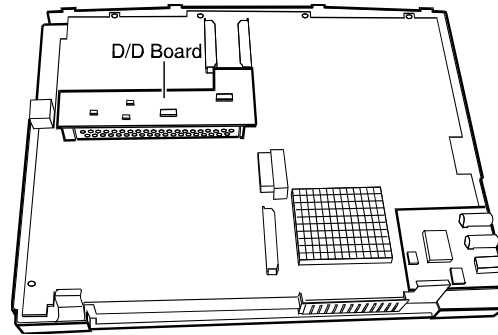

FIGURE 7-29. REMOVING THE DC/DC BOARD
9. REMOVE THE DC/DC BOARD BY LIFTING IT UP. (SEE FIGURE 7-29).